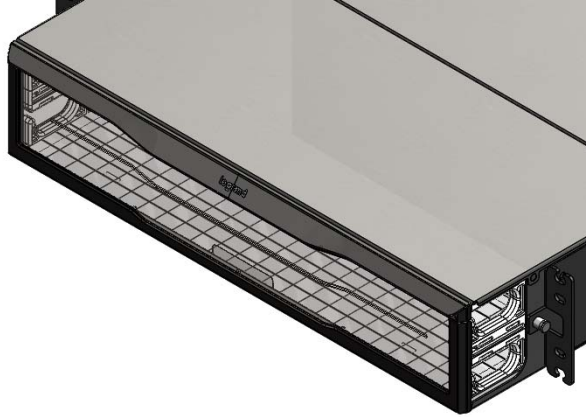

Figure 4
6.4. To access the tray, gently push on the front door assembly and gently pull until the tray is accessible. See Figures 4, 4a, 4b, and 4c.